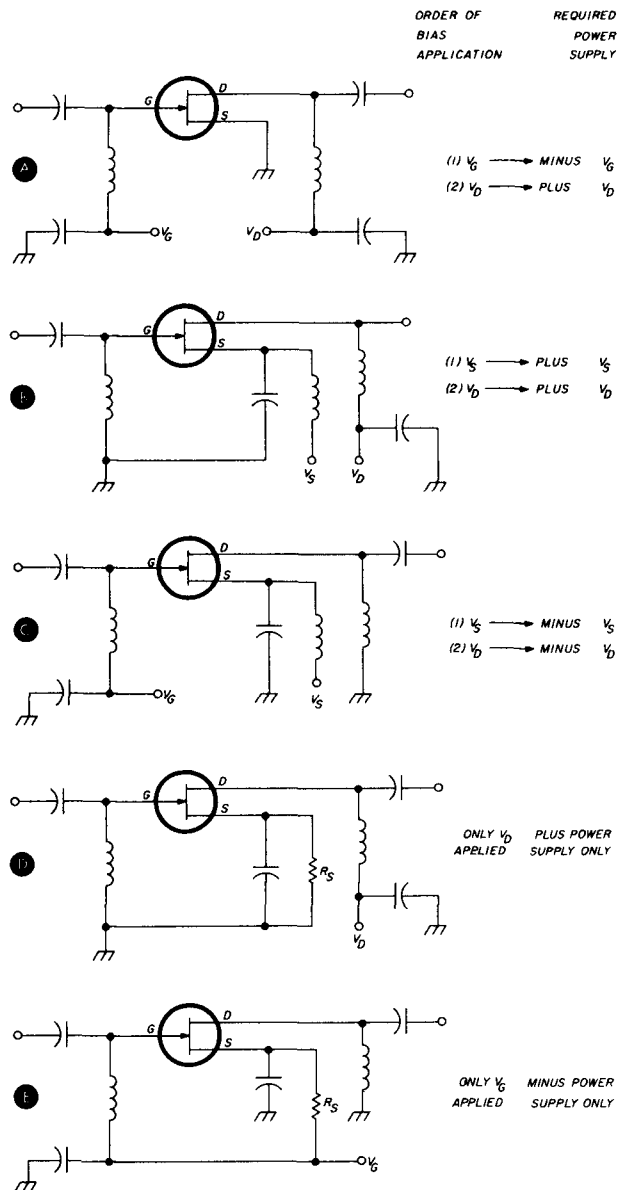

fig. 2. Five methods for supplying bias to GaAs fets (from reference 2).
**Fet bias circuits.** Fig. 2 shows five methods for supplying bias to fets.2 Each method has its advantage, and no method can be said to be the best; however, the method easiest to use (considering component mounting and operation) has been employed.
Although the method shown in **A** of fig. 2 is a bother to implement, it's a superior bias method for fets at extremely high frequencies, as in an 18-GHz amplifier. This is because, with this method, the source can be directly grounded, and the grounding inductance can be maintained smaller than with any other method. So this method will be significant when high gain at the high-frequency bands, or a low-noise amplifier, is desired.
In all methods other than **A**, a bypass capacitor is inserted in the source. Of these methods, **D** and **E** require only one power source. If a sudden increase in supply voltage occurs, series resistor  $R_S$  is connected to the source (**D** and **E**, fig. 2) so that a voltage,  $E$ , will appear across the  $R_S$  terminals and will automatically suppress the voltage increase between drain and source:
Although circuit **E** (fig. 2) has this feature, circuit